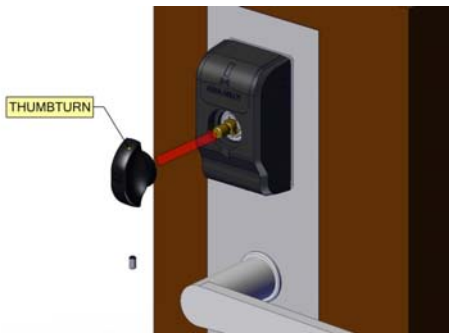
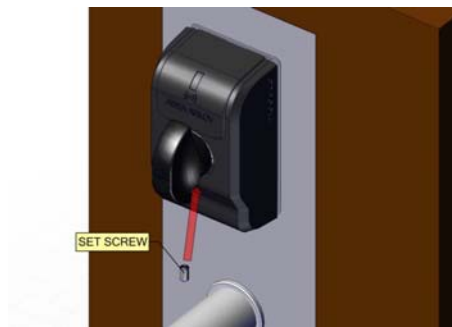
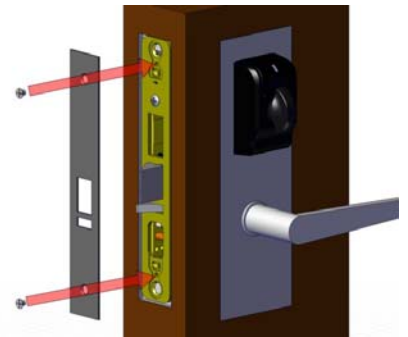

Fig. 18
Fig. 19
Fig. 20
Step 8: Install thumbturn (Fig. 18), set screw (Fig. 19), and re-install door edge trim (Fig. 20).